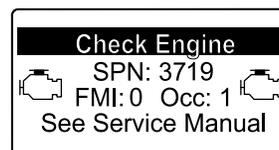

Figure 51
- Engine warning SPN 3719, FMI 0 (Figure 51)